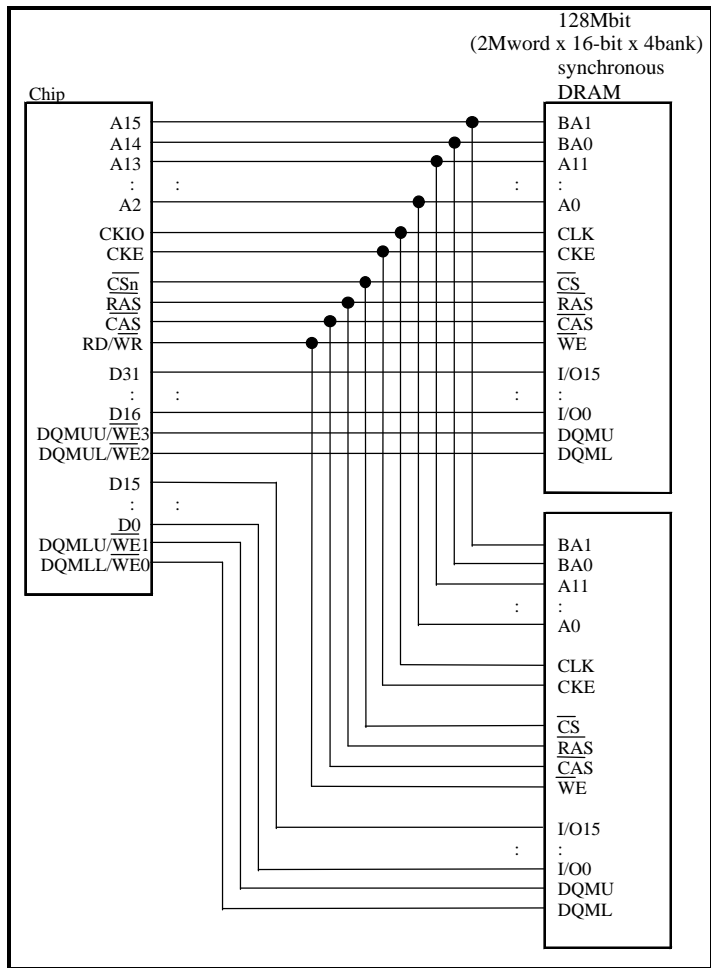

Figure2 128Mbit Synchronous DRAM (8Mword×16bit) Connection Example
4. In the case of a 128-Mbit DRAM(8M X 16-bit), connect to two 128M bit DRAMs (8M X 16-bit) by 32-bit data width as Figure2.